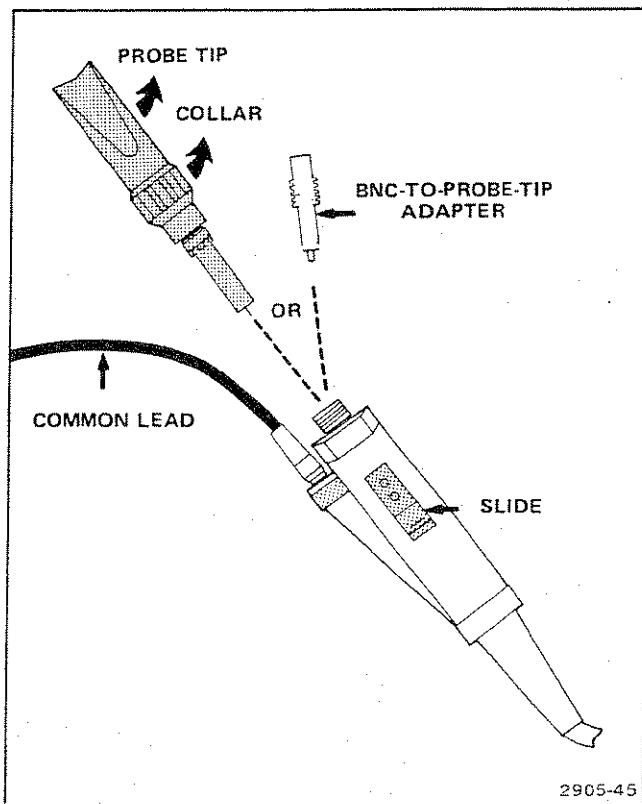

Figure 6-8. 3000-V probe tip adapter.
The 3000-V Input Probe tip may be replaced either with a new tip or with special adapters. Observe voltage ratings on any new adapters installed. The BNC-to-probe-tip adapter should be used ONLY for testing and adjustment. Refer to Figure 6-8 and perform the following steps:
2. Retract the slide to the position shown in Figure 6-8. The slide should stay in this position, and the spring inside the probe tip should cause the probe tip to return to its original position. If this does not occur, hold the slide in the retracted position and pull the probe tip away from the probe body until it reaches its original position.
11. While holding the probe body with one hand and the BNC-to-probe-tip adapter in the other, retract and hold the slide to the position shown in Figure 6-8.